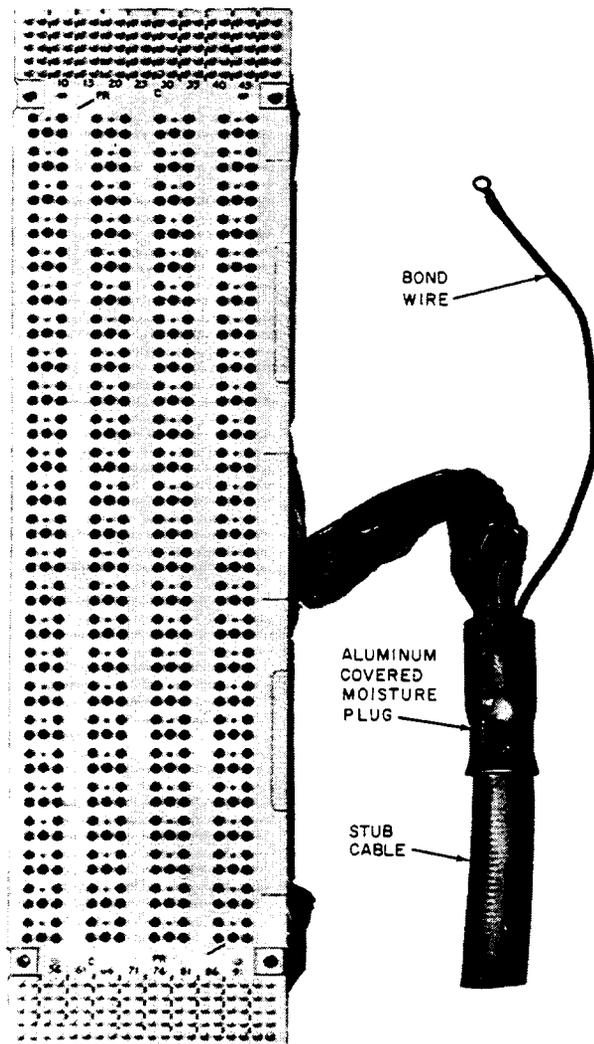

Figure 25—302-Type Connector for Use on Modular Protector Frame
6.09 The 302A1, B1, and E1 connectors (Figure 25) are used to terminate outside plant cables on the ED-1A220-31 modular protector frame, and the 302A4, B4, and E3 connectors are used to terminate outside plant cables on the low profile and tall double-sided conventional protector frame. These connectors, used for double-sided protector frames, have a hinged mounting bracket that allows the connector panel to swing out for access to the backplane cable. For the connector codes and more detailed information, refer to AT&T 201-108-107.